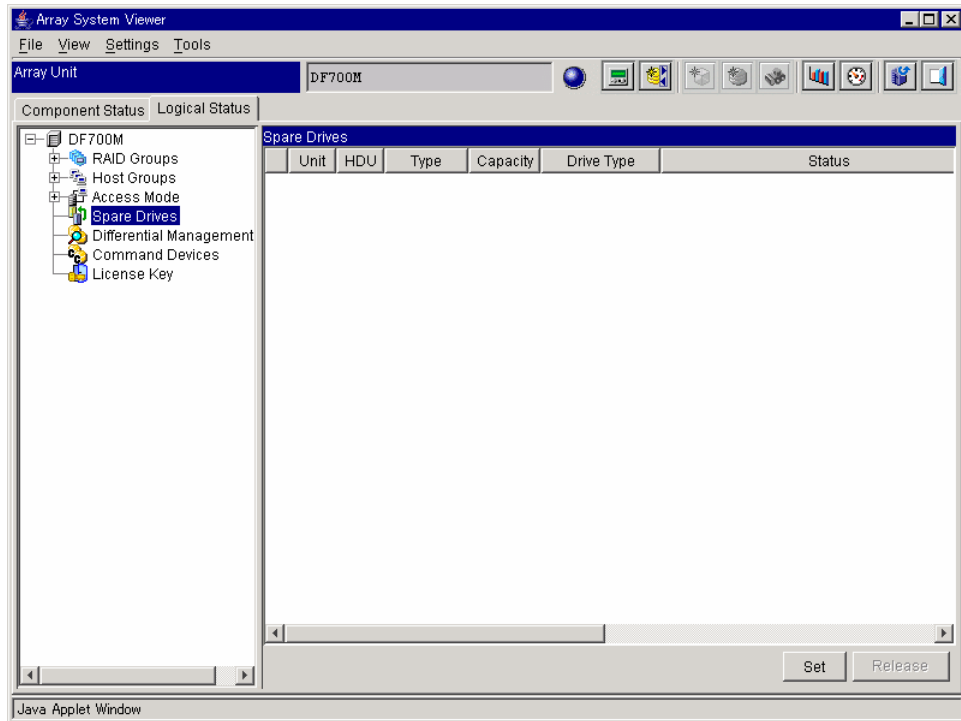

Figure 6.4 Array System Viewer - Spare Drives
1. Click the **Logical Status** tab on the **Array Unit** screen. See Figure 6.4.